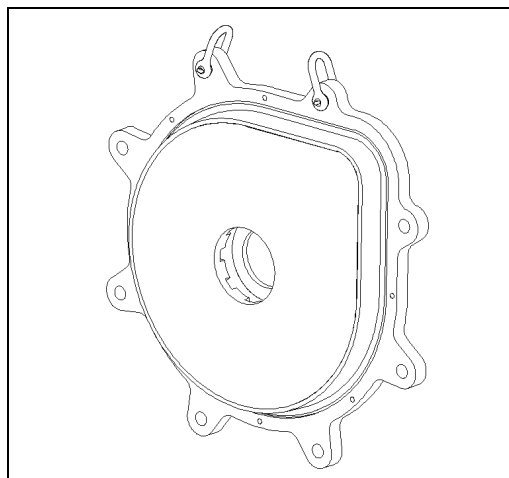

Figure 5-4
- a. Attach two chain shackles through the top ears on the frame plate. Lift the gland assembly using a hoist. Refer to *Figure 5-4*.